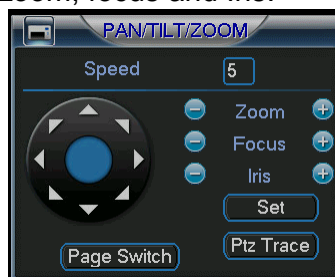
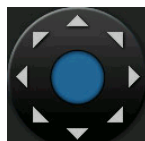

Figure 6-2
Figure 6-3
Click Pan/Tilt/Zoom, the interface is shown in Figure 6-2.
In Figure 6-2, click the directional arrows (See Figure 6-3 ) to adjust the PTZ's position. There are total eight directional arrows. (Note: there are only four directional arrows in DVR front panel.)
In Figure 6-2 click the set button. The interface is shown as below:
In Figure 6-2, click the page switch button you can see an interface is shown as in Figure 6-6.
**Note:** The following setups are usually operated in the Figure 6-2, Figure 6-5 and Figure 6-6.
In Figure 6-2, use the eight directional arrows to adjust the camera to the proper position you desire.
Please go to Figure 6-2 to modify zoom, focus, and iris. Go back to Figure 6-9 and click end button.
In Figure 6-5, click border you can see an interface is shown as in Figure 6-10. Go to Figure 6-2 and use the directional arrows to select the camera's left limit.
Click page switch button again, system goes back to Figure 6-2.